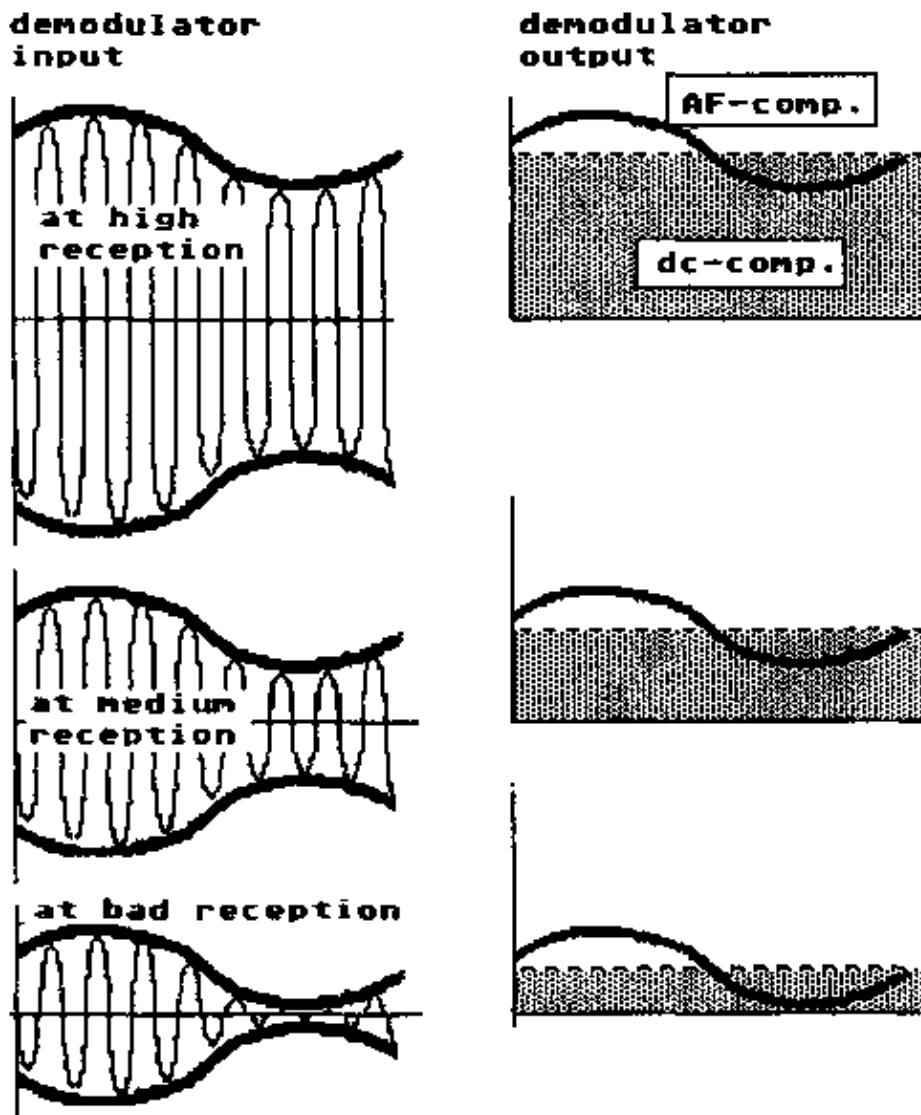

fig. 188
- the second part is the dc-component - the distance of the AF-sinewave from the noughtline. This second part is the one which gives us an information about the reception strength (as represented in fig. 188).